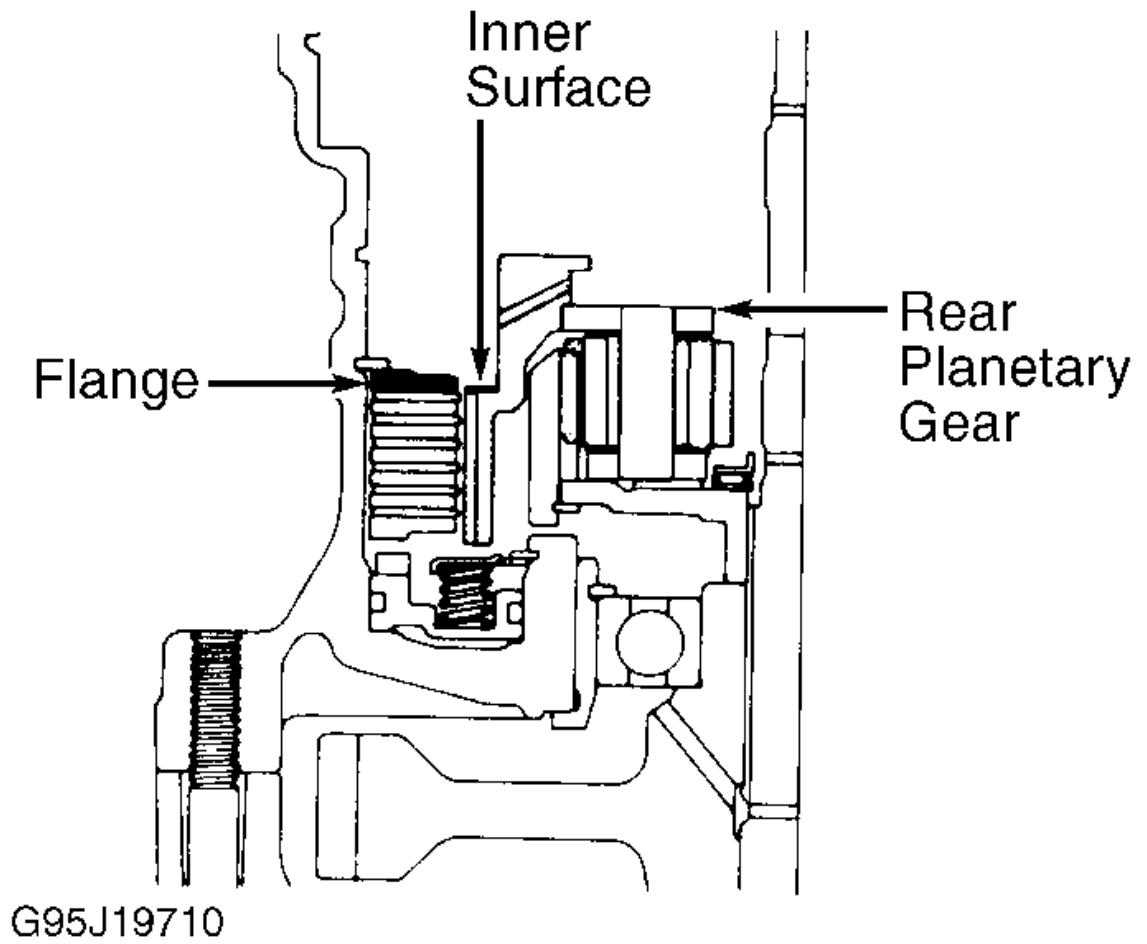

Fig. 81: Checking Rear Planetary Installation
13. Install thrust bearing "F". See Fig. 81 . Press in counterdriven gear. Install NEW lock nut. Using holder and adapter, tighten lock nut to 116 ft. lbs. (157 N.m). Using a dial indicator, measure countershaft end play. End play should be .009-.035" (.23-.89 mm). Stake lock nut. Install snap ring in transaxle case.
17. Align spline of planetary gear with tabs of 1st and reverse brake discs. Install rear planetary gear into 1st and reverse brake. Ensure inner surface of rear planetary gear is below upper surface of flange. See Fig. 81 . Install No. 2 one-way clutch with shiny side upward. Rotate planetary gear clockwise while installing No. 2 one-way clutch.
22. Install thrust bearing and race "B" on front planetary gear. See Fig. 81 . Install planetary gear. Install thrust bearing and race "C" on front planetary ring gear. See Fig. 88 . Install front planetary ring gear. Install intermediate shaft oil seal ring.